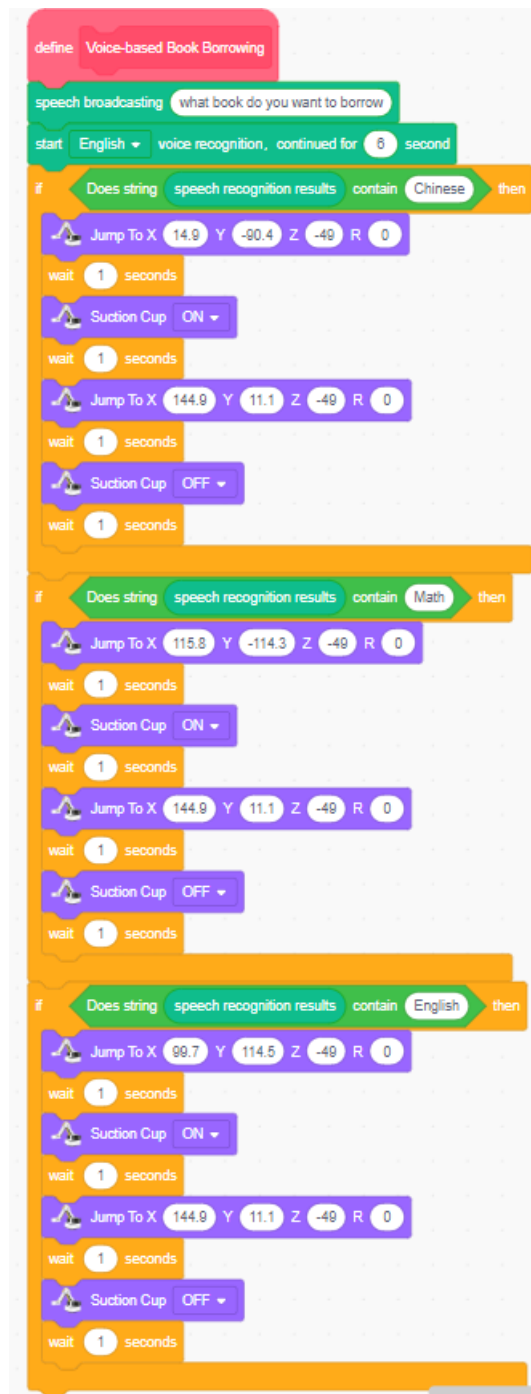

Figure 5.28 Defining the block of voice-based book borrowing
Step 3: Write the content of the block of book borrowing by voice. Click the **My Blocks** tab, drag the "Voice-based Book Borrowing" block to the code area, and place the code for book borrowing by voice under the "Voice-based Book Borrowing" block, as shown in Figure 5.28.